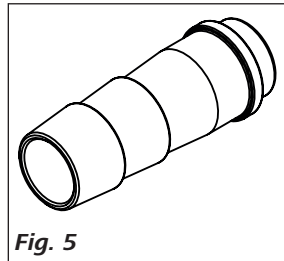

Fig. 5
- Hose olive NW 12 (2 pieces)      see **Fig. 5**